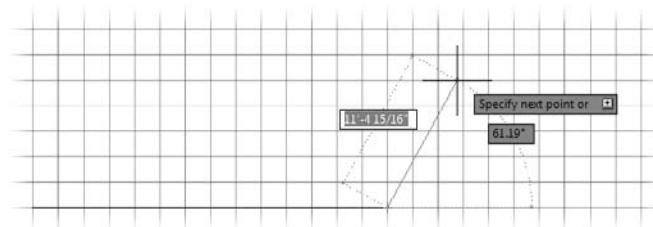

FIGURE 3.15 The first line of the cabin wall is drawn.
4. Continue moving the crosshair cursor left or right until the dashed linear dimension displays 28' (8550). At this point, click the left mouse button to draw the first line of the cabin wall (see Figure 3.15).